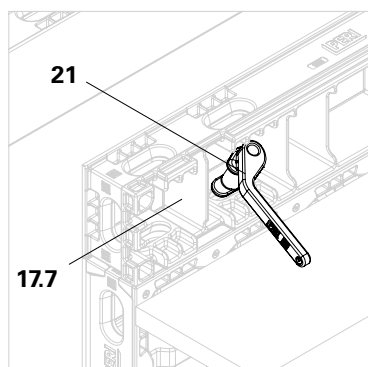

Fig. B10.07a
1. Mount the DFP filler panel (**17.7**) at the top of the standard panels using the DUO coupler (**21**). (Fig. B10.07a)